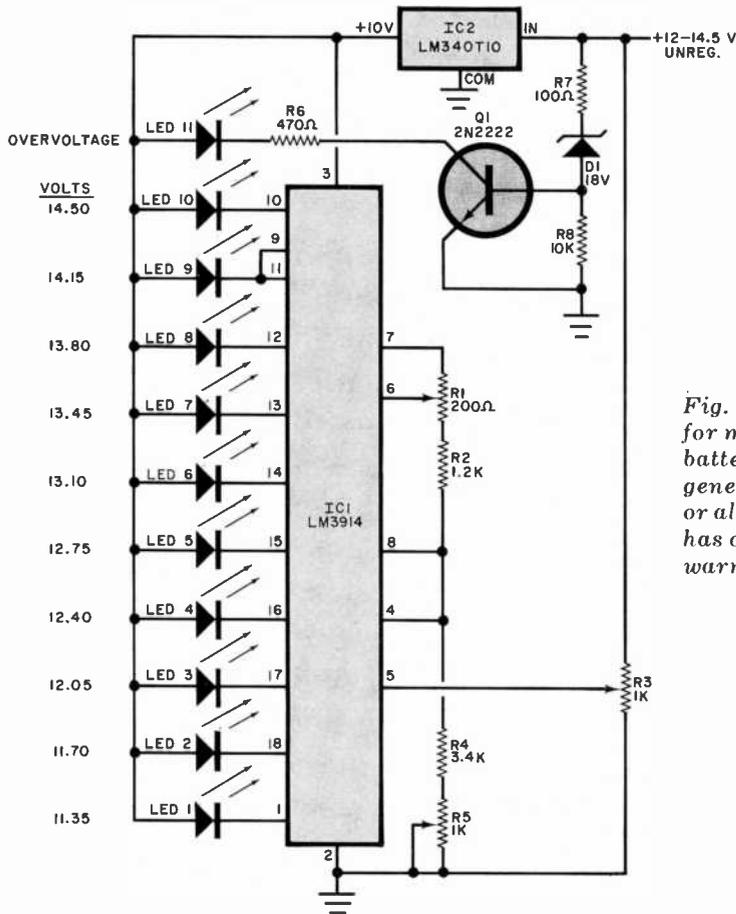
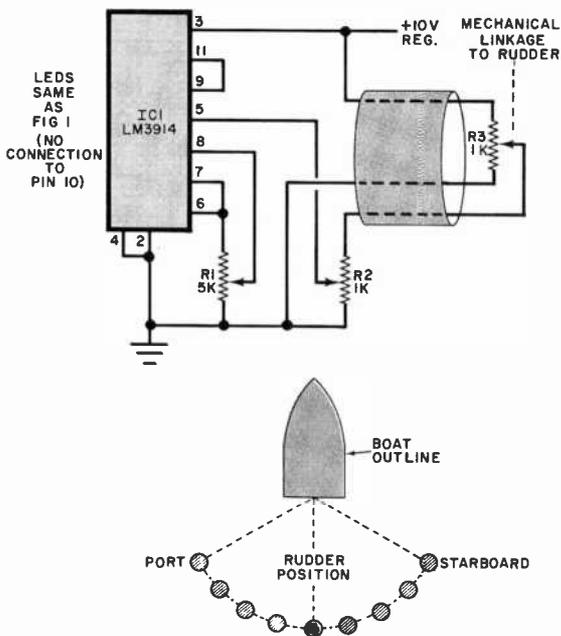

Fig. 1. Circuit for monitoring battery, generator or alternator has overvoltage warning feature.
Fig. 8. Rudder/stern drive position indicator uses same LED readout as Fig. 1. LEDs are mounted in arc to indicate position.
Voltage Monitor. The circuit shown in Fig. 1 employs 11 LEDs to display battery and alternator/generator charger voltage. The display indicates battery failure, operating status of the generator/alternator charging system, and bat-
PARTS LIST (Fig. 1)
- R6, R7, R8, D1, LED11, Q1—Same as Fig. 1
PARTS LIST (Fig. 8)
- Misc.—LEDs (see Fig. 1); 10-V regulated dc source; three-conductor waterproof interconnecting cable; etc.
Rudder-Position Indicator. The circuit in Fig. 8 can be a valuable asset to any stern-drive or inboard-engine boat. It allows the person at the wheel to always know the angular position of the rudder or stern drive. The LED display is basically the same as that shown in Fig. 1, except that there is no LED connection to pin 10 of the IC. The LEDs are best arranged in an arc, as shown in Fig. 8. The arc originates at the stern post of the rudder/stern drive that is painted on the enclosure.
After assembling the electronics package, connect everything but pin 5 of the IC. Connect a 12-to-14-volt dc source to the unregulated input (before the regulator IC in Fig. 1) and a 5-volt dc source between pin 5 of the IC and ground, with +5 volts going to pin 5. Carefully adjust *R1* until *LED9* just lights. The brightness of the LED will change slightly as this adjustment is made because *R1* controls LED current. This is why *R1* had to be adjusted before applying power. An incorrect setting could pump more than 30 mA into the LEDs, possibly damaging them. Once *R1* had been calibrated, complete the connection from pin 5 of the IC to *R2* and temporarily connect *R3* into the circuit. Set *R3* to its center position and adjust *R2* until *LED5* comes on. This point represents dead center for the rudder during final installation.